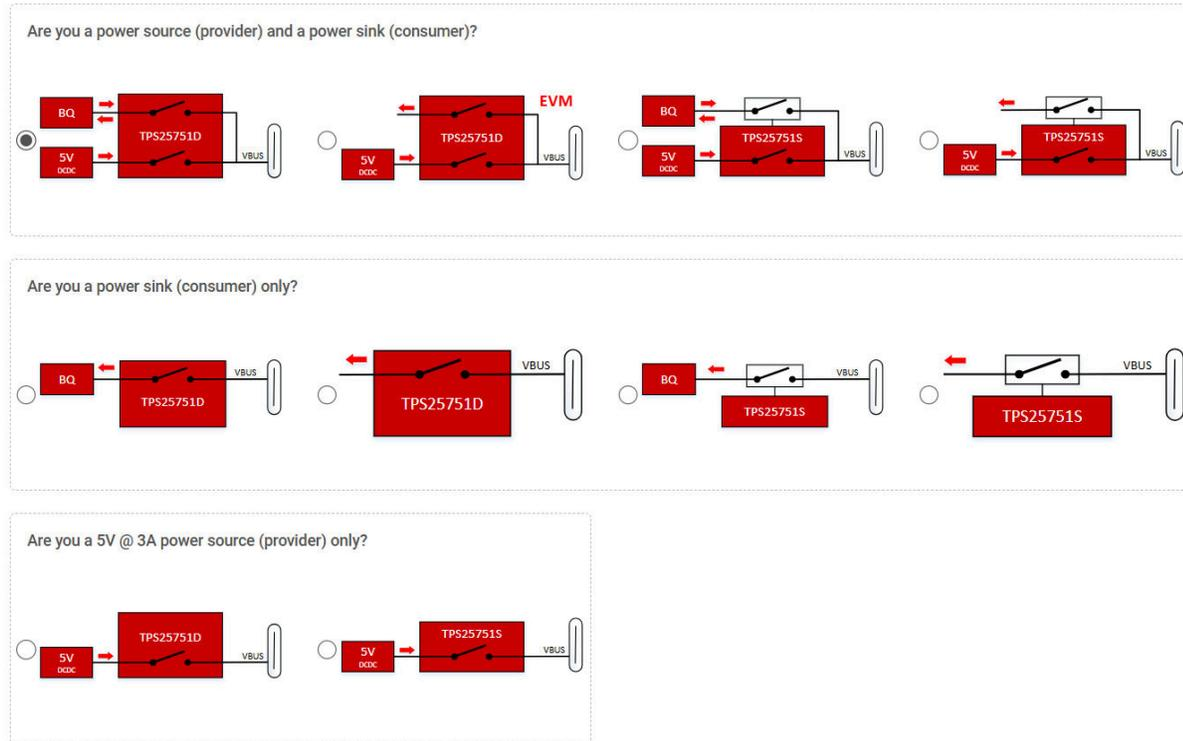

Figure 3-2. TPS25751 Application Selection
3. Next, select the configuration. For this reference design, choose the first option, which is selected by default as shown in Figure 3-2.